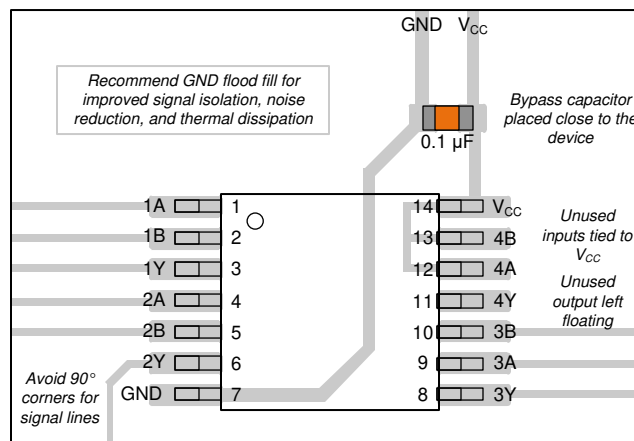

Figure 8-3. Example Layout for the SN74LVC132A
1. Add a decoupling capacitor from  $V_{CC}$  to GND. The capacitor needs to be placed physically close to the device and electrically close to both the  $V_{CC}$  and GND pins. An example layout is shown in the Figure 8-3.
The power supply can be any voltage between the minimum and maximum supply voltage rating located in the Recommended Operating Conditions. Each  $V_{CC}$  terminal should have a bypass capacitor to prevent power disturbance. A  $0.1\mu\text{F}$  capacitor is recommended for this device. It is acceptable to parallel multiple bypass caps to reject different frequencies of noise. The  $0.1\mu\text{F}$  and  $1\mu\text{F}$  capacitors are commonly used in parallel. The bypass capacitor should be installed as close to the power terminal as possible for best results, as shown in Figure 8-3.